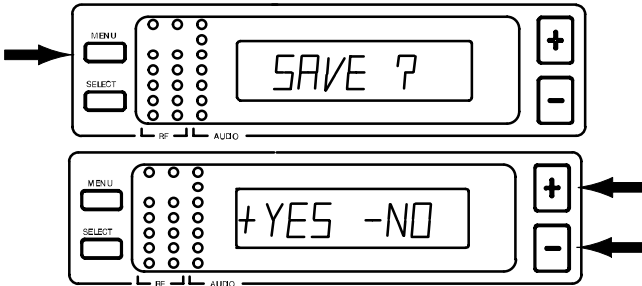

FIGURE 24
- When the new name has been completely entered, press the MENU button. "SAVE?" appears, followed by "+ YES - NO". Press the "+" button to save the new name and return to the Group/Channel/TV display. Press the "-" button to make more changes. See Figure 24.